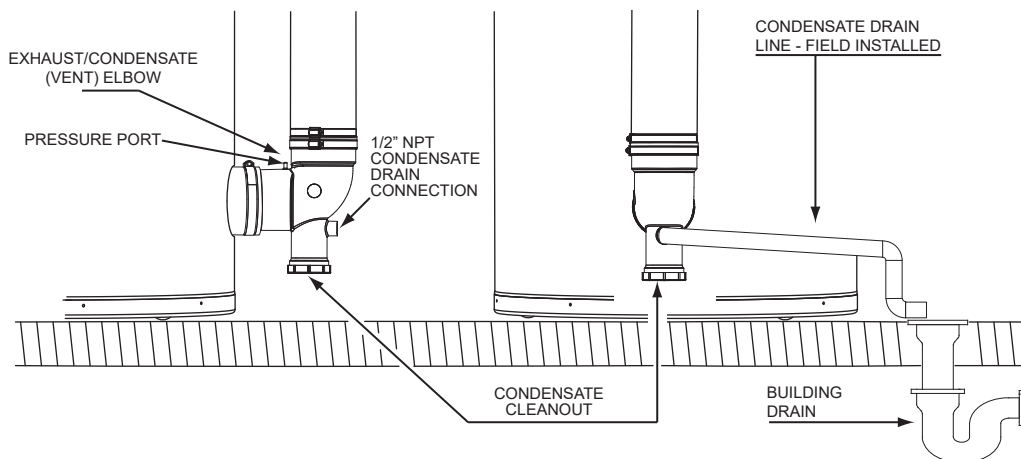

Figure 53. Condensate Drain Installation
2. Install a 1/2 inch PVC condensate drain line between condensate drain connection on the Exhaust/Condensate Elbow and a suitable building drain. The condensate line must slope to an open drain. See Figure 53.
3. Terminate the condensate drain piping with an elbow above the drain. Ensure that any discharge will exit the condensate drain near a suitable building drain, or external to the building. See Figure 53.
4. Ensure the condensate drain line is not elevated above the condensate drain connection on the Exhaust/Condensate Elbow. See Figure 53.
Ensure all gas pipe is clean on the inside before installation. To trap any dirt or foreign material in the gas supply line a sediment trap must be installed as shown in **Figure 53**. The sediment trap must be readily accessible and not subject to freezing conditions. Install in accordance with the recommendations of the local gas utility company.
- Install a sediment trap as shown in *Figure 53* (page 43).
- Install a Main Gas Shutoff valve in the supply gas line as shown in *Figure 53* (page 43).
- For test pressures exceeding 1/2 psi (3.45 kPa), disconnect the water heater and its Main Gas Shutoff Valve from the gas supply piping system during testing. See *Figure 53* (page 43). The gas supply line must be capped when disconnected from the water heater.